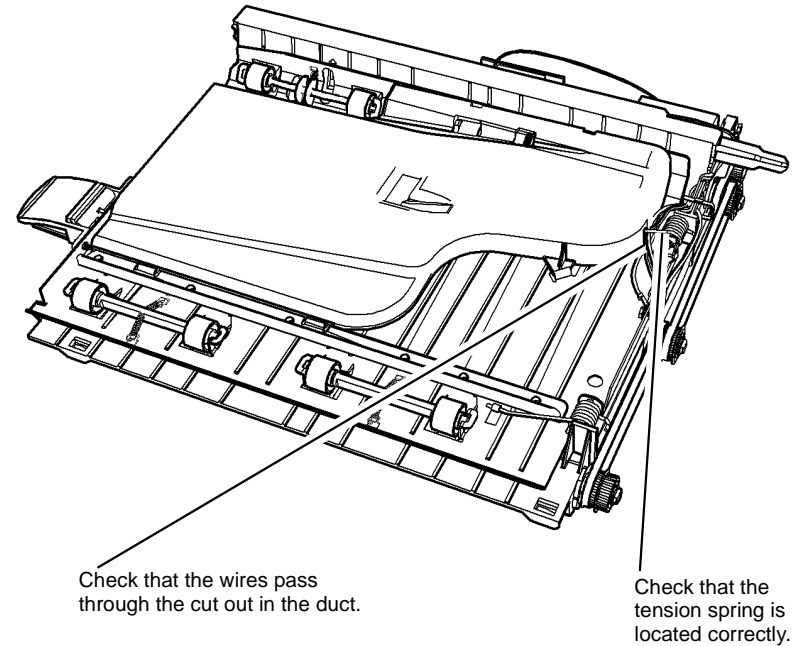

Figure 3 Duplex transport duct
3. **(65-90 ppm)**. Check that the tension spring is located correctly on the upper transport guide. Install the duct on the duplex transport. Check that the sensor wires pass through the cut-out in the duct and are not caught under the duct. Figure 3.